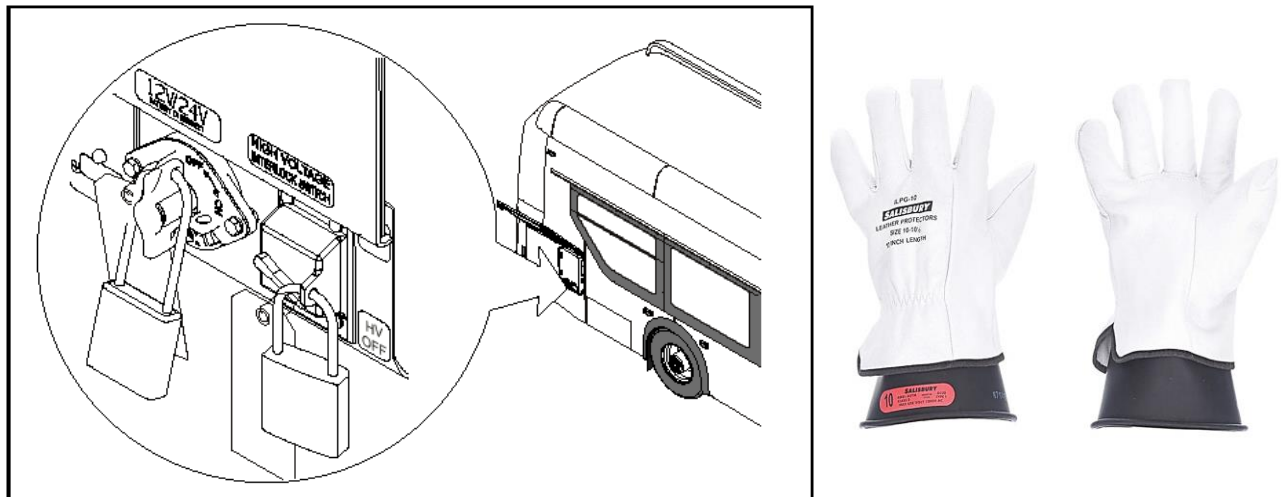

Figure 1: HV and LV Disconnect Switch Location and Arc Flash Glove Reference
3. Perform the Lock Out Tag Out and De-Energizing procedures found in the Electrical System Section of the New Flyer Service Manual. See Figure 1.